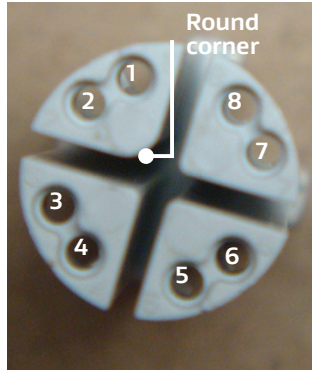
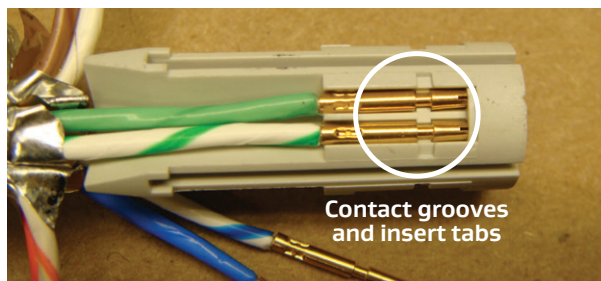

Figure 69: Connector insert positions
Figure 70: Contact grooves and insert tabs
19. Carefully insert each pair into the appropriate section of the connector insert according to the following table. Positions 1 and 2 are located on the section with the rounded corner at the center, which keys with the connector body (Figure 69). The grooves in the contacts should fit in between both tabs in each wire slot of the insert (Figure 70).